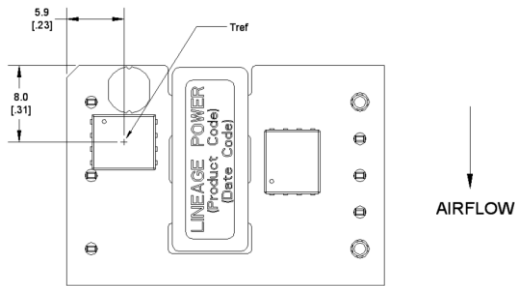

Figure 13. T_{ref} Temperature Measurement Location for Open frame Module.
To provide protection under certain fault conditions, the unit is equipped with a thermal shutdown circuit. The unit will shutdown if the thermal reference point T_{ref} (Figure 13), exceeds 125°C (typical), but the thermal shutdown is not intended as a guarantee that the unit will survive temperatures beyond its rating. The module can be restarted by cycling the dc input power for at least one second or by toggling the remote on/off signal for at least one second. If the auto-restart option (4) is ordered, the module will automatically restart upon cool-down to a safe temperature.
The thermal reference point, T_{ref} , used in the specifications for open frame modules is shown in Figure 13. For reliable operation this temperature should not exceed 125°C.